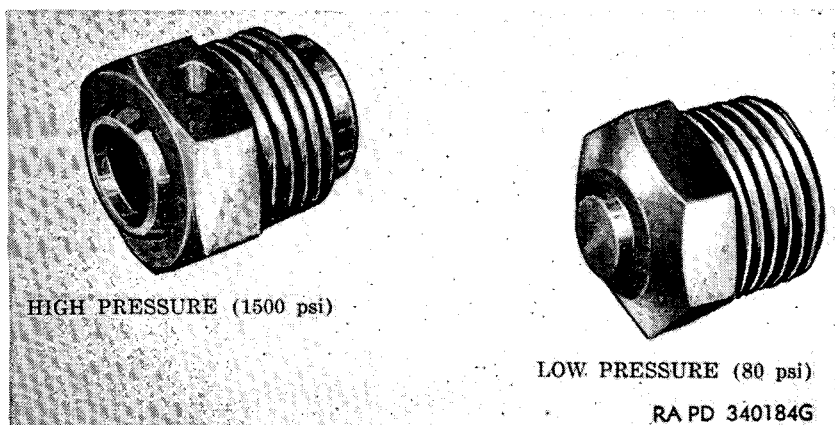

Figure 96.1 (Added) Relief valves.
b. (Added) The low pressure relief valve (fig. 96.1), used in propeller shafts of early models, relieves the lubricant before it is forced to the universal joint trunnion bearings. To correct this condition, the low pressure (80 psi) relief valve has been replaced by a high pressure (1,500 psi) valve. All low pressure relief valves found in universal joints of ordnance matériel in the field, should be replaced at the earliest practicable date. Low pressure relief valves found in new universal joint repair kits or in propeller shaft assemblies should be changed before installing in the vehicle.